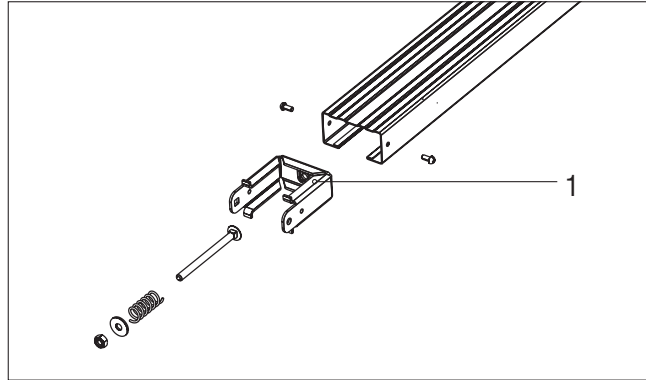

Figure 1
2. Disassemble a chain tensioner mechanism, pos. 1 (fig. 1).